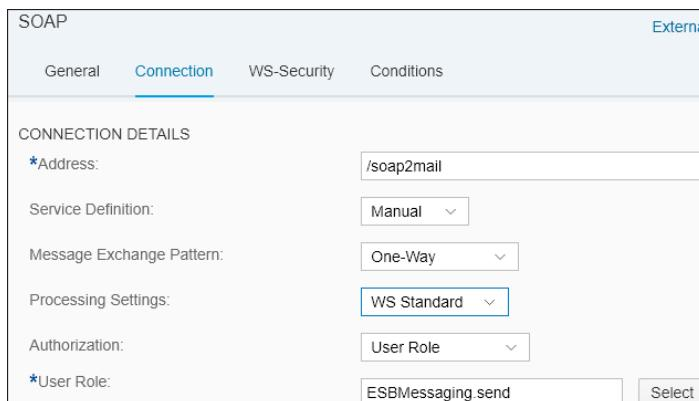

Figure 2.27 SOAP Adapter Settings
6. Leave the settings under **General** as they are and choose the **Connection** tab. Here you specify settings as shown in Figure 2.27. These settings include: